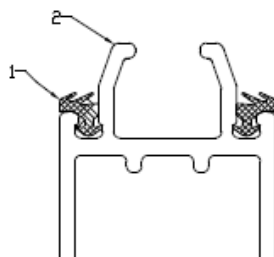

Figure 16
- Step 2: Remove the damaged seals and replace it by the new ones (See Figure 16, part#1). Add general 12urpose Loctite to secure the seal in position